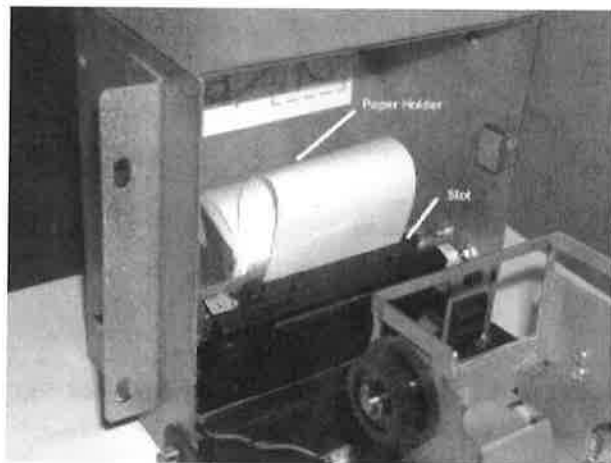

Figure 8-3. Paper Compartment
2. Tilt printer mechanism forward to access paper holder. See Figure 8-3 for the following steps.